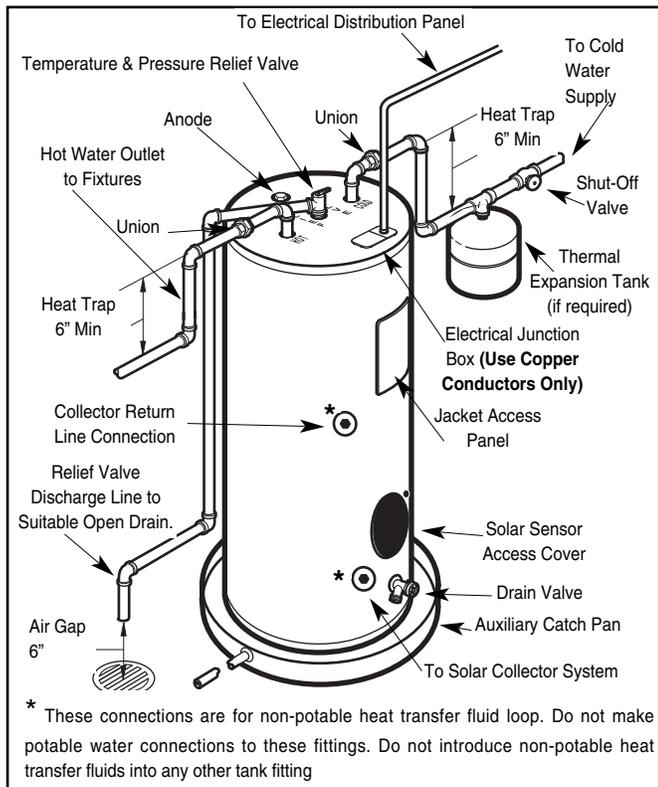

Figure 2.—Typical Installation
The suggested method of controlling thermal expansion is to install an expansion tank in the cold water line between the water heater and the check valve. (refer to Figure 2.) The expansion tank is designed with an air cushion built in that compresses as the system pressure increases, thereby relieving the over pressure condition and eliminating the repeated operation of the relief valve. Other methods of controlling thermal expansion are also available. Contact your installing contractor, water supplier, or plumbing inspector for additional information regarding this subject.
4. POTABLE WATER SUPPLY CONNECTIONS — With the exception of the drain valve, all potable water connections are located on top of the water heater. Refer to Fig. 2 for suggested typical installation. The installation of unions or flexible copper connectors is recommended on the hot and cold water connections so that the water heater may be easily disconnected for servicing if necessary. The HOT and COLD water connections are clearly marked and are 3/4" NPT on all models. Install a shut-off valve in the cold water line near the water heater.
5. RELIEF VALVE — A new combination temperature and pressure relief valve, complying with the Standard for Relief Valves and Automatic Gas Shutoff Devices for Hot Water Supply Systems, ANSI Z21.22, must be installed in the opening provided and marked for the purpose on the water heater. (Refer to Fig. 2.) No valve of any type should be installed between the relief valve and the tank. Local codes shall govern the installation of relief valves.